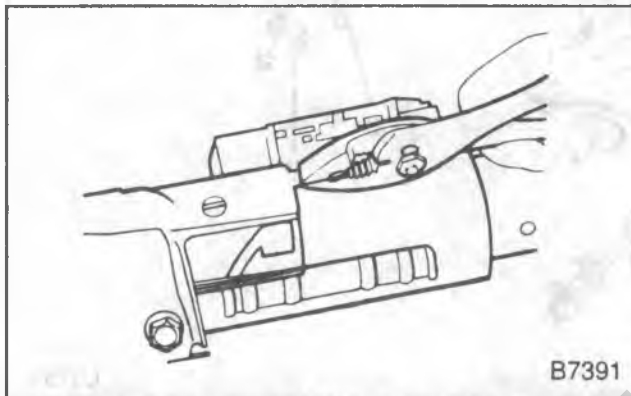

Figure 12—Turn Signal Wire Protector Removal
7. Wire protector. Pull downward out of the column with pliers using the tab provided (figure 12).